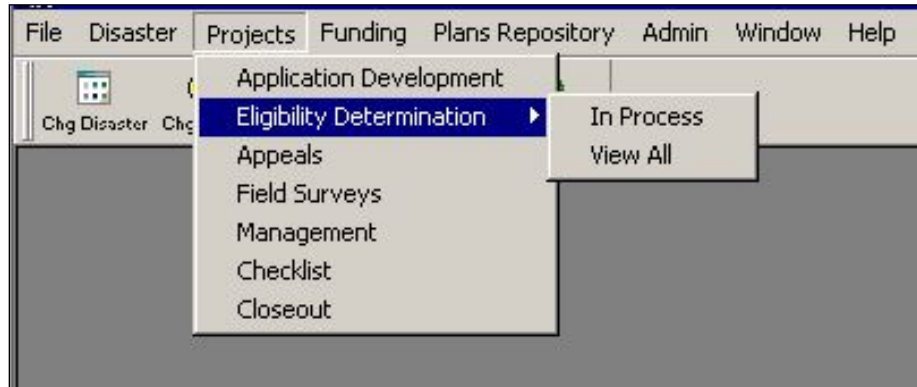

Figure 7-2: Mitigation > Projects > Eligibility Determination > In Process
1. On the MITIGATION menu bar, click on Projects > Eligibility Determination > In Process (Figure 7-2).